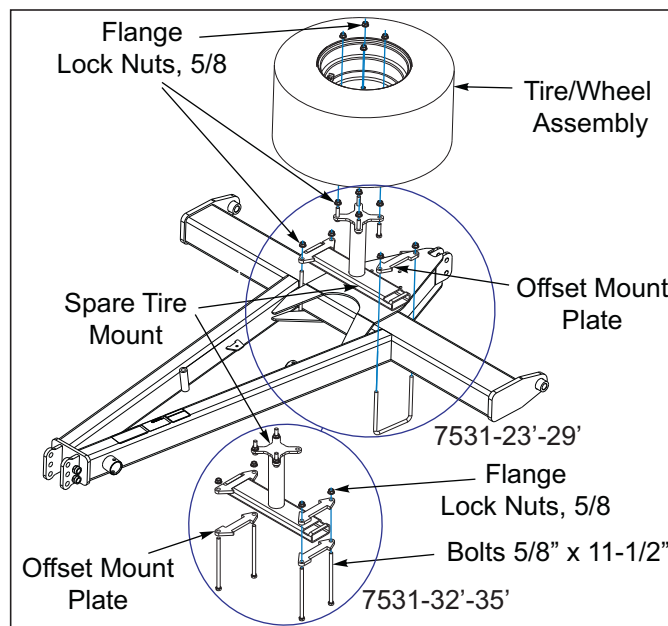

Figure 3-3: Spare Tire Assembly
1. Attach spare tire assembly to rear of hitch as shown *See Figure 3-3*.